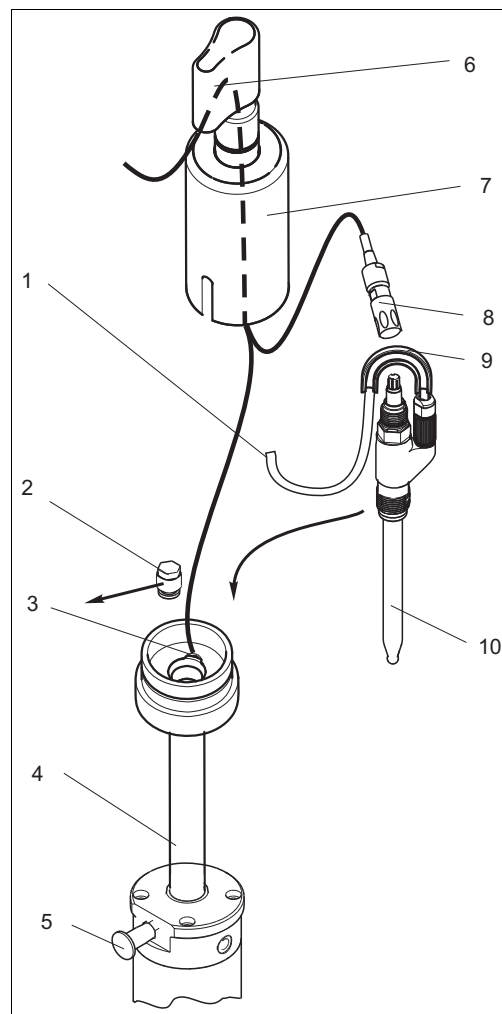

Fig. 17: Liquid KCl electrolyte sensor installation
2. Remove the splash protection cap (→ Fig. 17, pos. 6) and the KCl hood (pos. 7).
- In case of symmetrical pH measurement, you must push the PML connector onto the PML connection (PML = potential matching line, pos. 3).
6. Connect the electrolyte supply tube (pos. 1) to the electrolyte connection of the sensor.